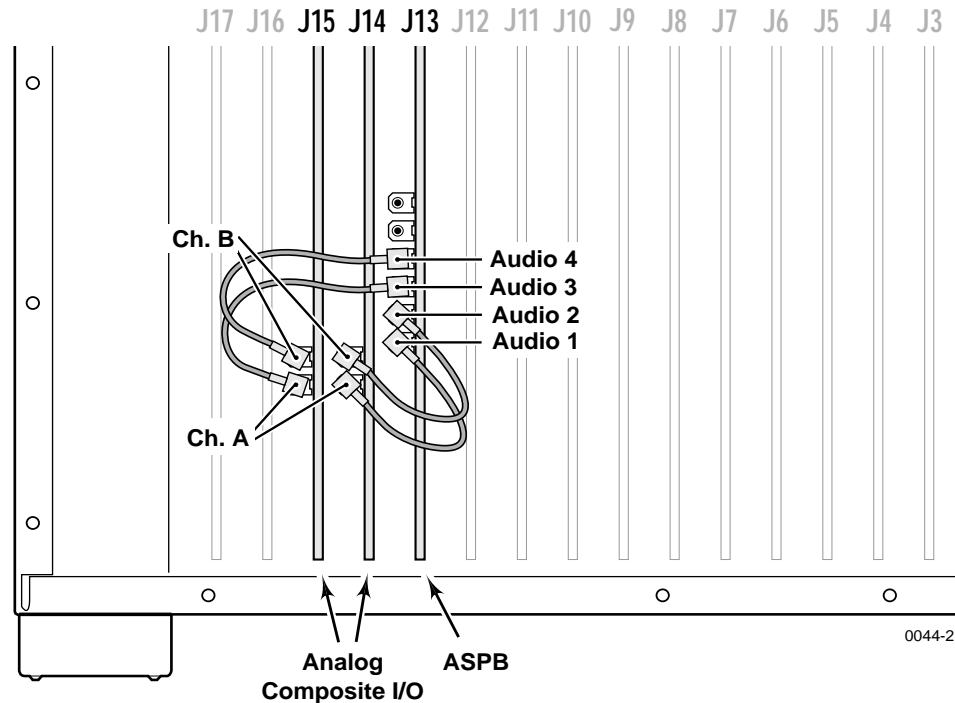
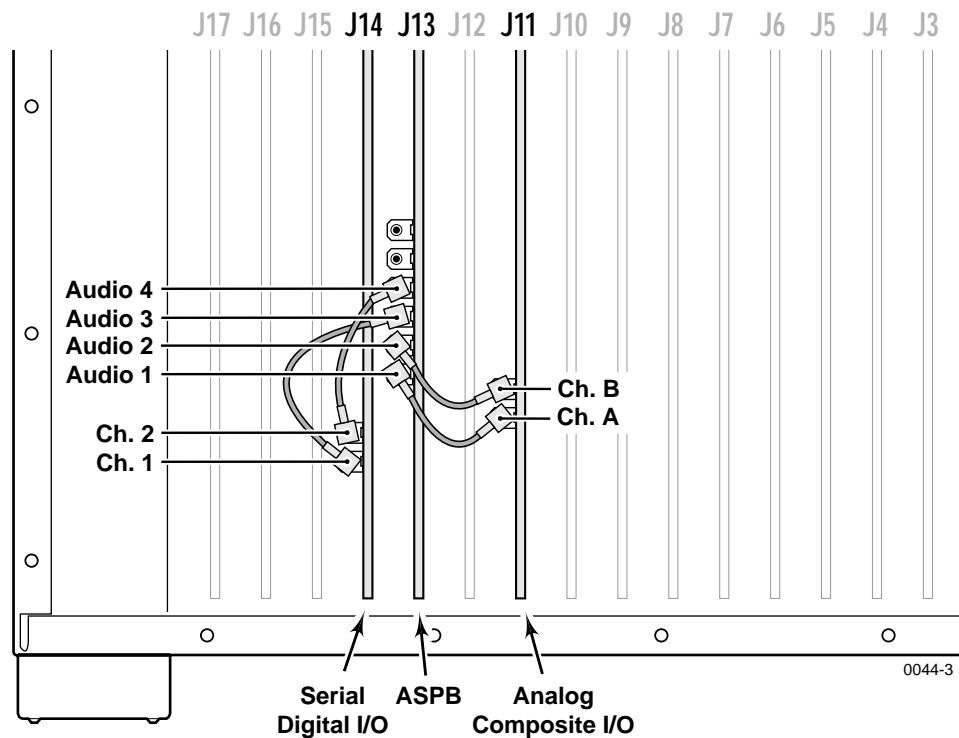

Figure 4. Example of Audio Clock Cabling in a PDR204A
Figure 5. Example of Audio Clock Cabling in a PDR202D
Figure 4 (page 17) and Figure 5 (page 18) show examples of external audio clock cabling with the ASPB. In Figure 4, the Analog Composite I/O boards, installed in slots J14 and J15, are the only video boards. The audio clock cable connections are:
In Figure 5 (page 18), the Analog Composite I/O board installed in slot J11 makes it the first video board (counting from J5 to J15) and the Serial Digital I/O board in slot J14 becomes the second video board. The new Audio clock cable connections should now be:
- Figure 5 is an example of a two-channel PDR200 with one Serial Digital I/O board.